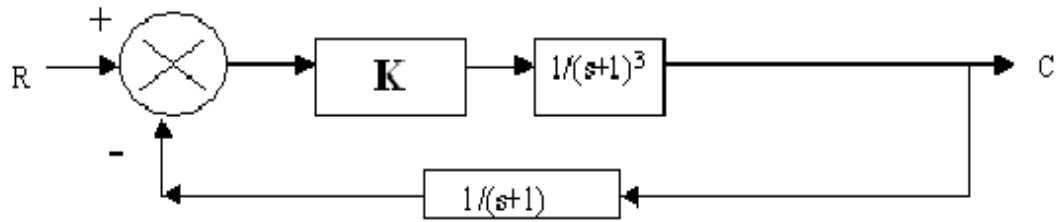

Figure 5
5. For the control system shown in the figure 5, the characteristic equation is